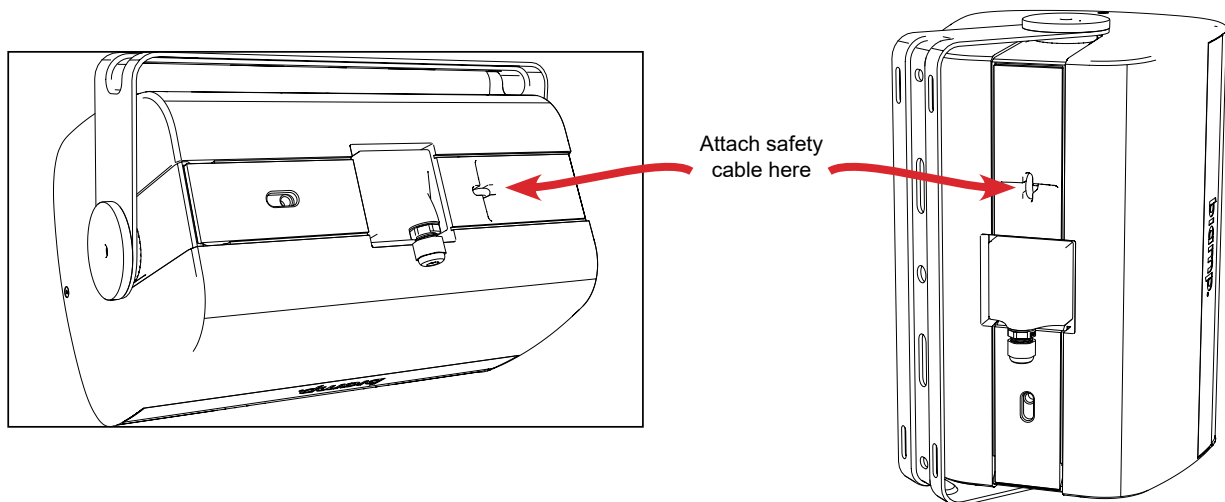

Figure 14. Attach safety cable
9. Secure the loudspeaker with a safety cable attached to the loop on the rear (Figure 14). The cable should be mounted to a secondary mounting point close to the U-Bracket to avoid any kinetic force if the mount should fail.